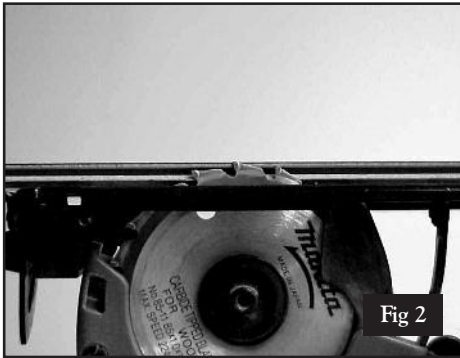

Fig 2
3. Set the cut depth of the circular saw to the exact thickness of the plank/tile (see Fig. 2).